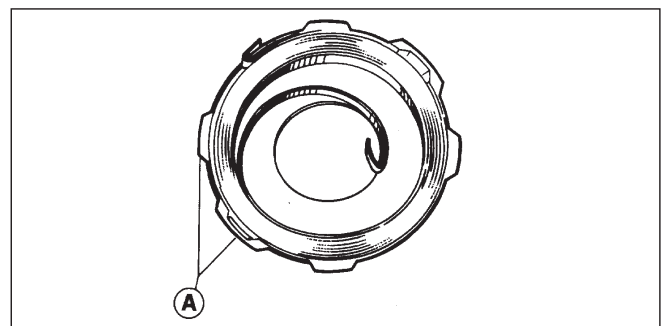

Fig. 4
- Once the damaged parts have been replaced, lubricate spring container with soft grease (Fig 4) and proceed with reassembly.